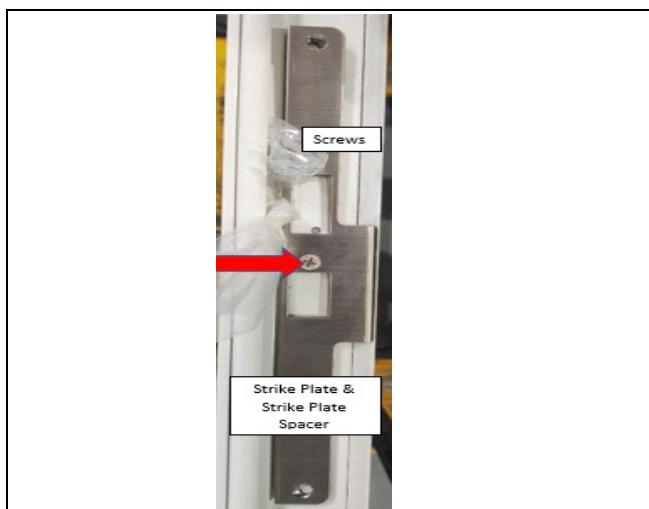

Figure 1
1. Remove the strike plate, strike plate spacer, and #10 x 3/4" self-drilling screws from the inactive panel astragal or the frame jamb. The screw and screw hole (red arrow) that hold these items in place, during shipping, to the inactive panel astragal (dual panel unit) or frame jamb (single panel unit) is not used in the installation of the strike plate spacer. See Figure 1.